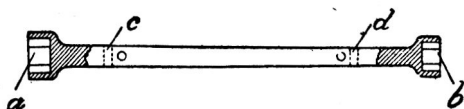
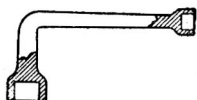

FIG. 122.—Box-SPANNER WHICH CAN BE MADE BY ANY BLACKSMITH.
FIG. 123.—CURVED BOX-SPANNER WHICH A BLACKSMITH CAN MAKE.
are the (7) *box-spanners*, since those provided by the manufacturer do not always fit every emergency. When you have to call upon your friend the repair-man for some adjustment, observe whether he uses your spanner or his own. If he has trouble with yours, get him to forge you a set which should include several long, straight ones, to take a different-size nut at each end (*a* and *b*, Fig. 122), and with a hole at each end (*c* and *d*) for the bar. Another useful shape for getting at nuts which can not be reached by long spanner is shown in Fig. 123. The ideal box-spanner is made of steel tubing, but the local blacksmith will not make as